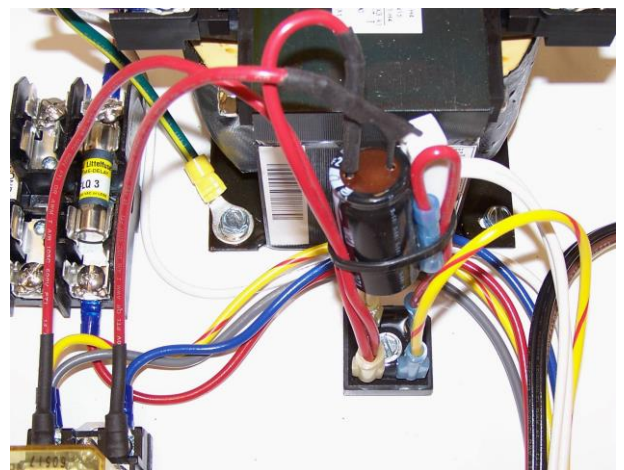

Figure 2
STEP3 - A: Remove the Capacitor/Resistor assembly from the bridge Rectifier (Figure 2).